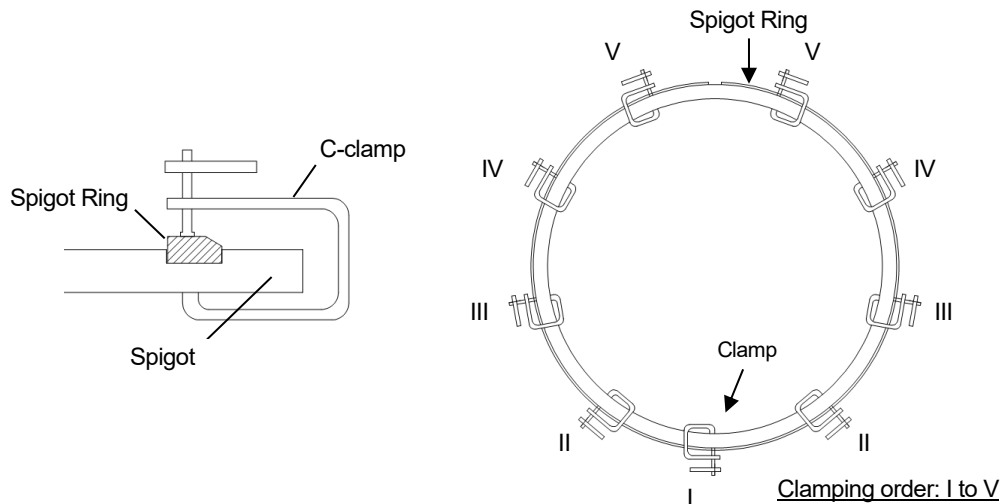

Figure-28 Retainment of Spigot Ring with clamps
- (1) Clean the groove before installing the Spigot Ring.
- (2) Retain the Spigot Ring on the spigot with C-clamps from the bottom to the top (Figure-28). Ensure the cut portion of the Spigot Ring on the top.